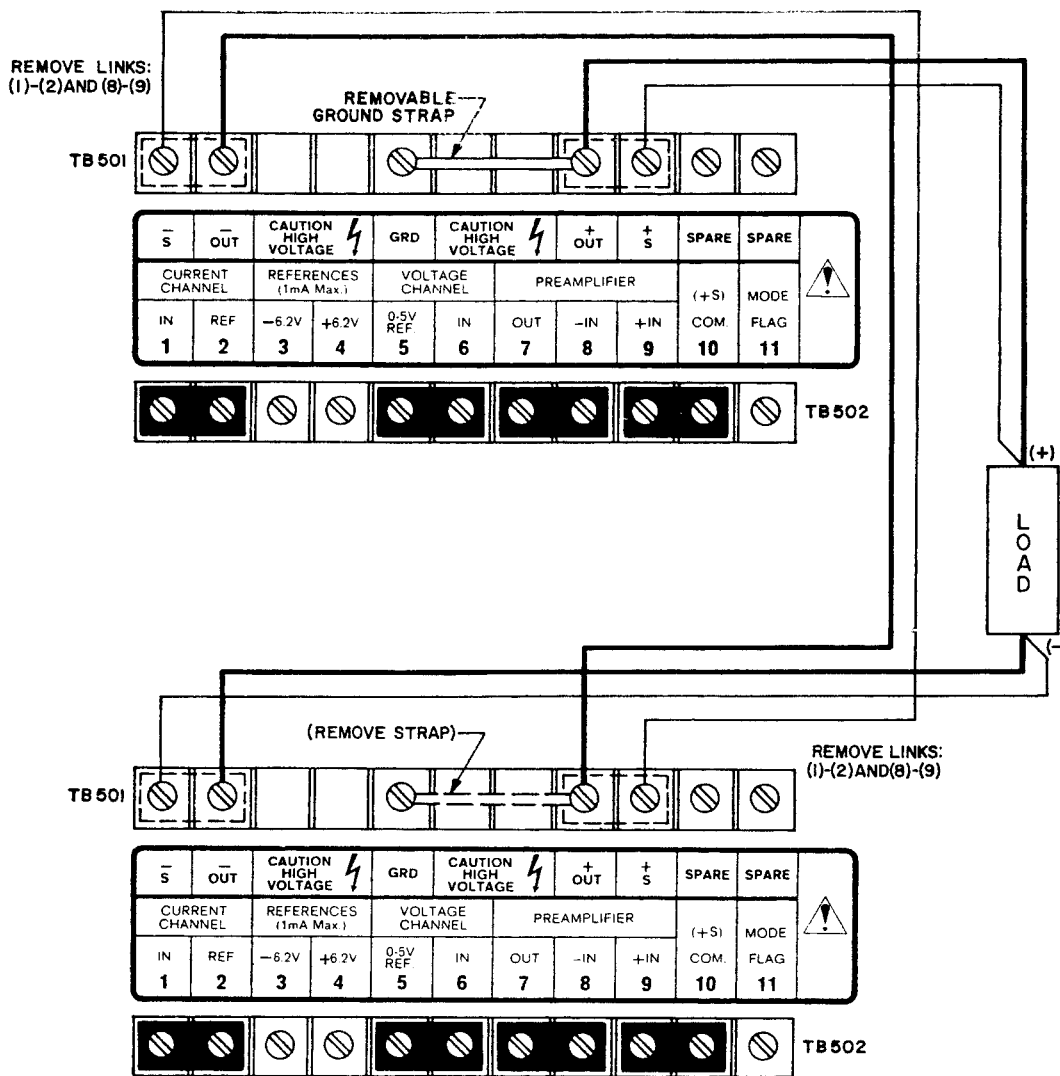

FIG. 3-10 "AUTOMATIC" SERIES CONNECTION OF TWO MODEL APH 500M POWER SUPPLIES.
3-42 PROCEDURE FOR "AUTOMATIC" SERIES CONNECTION (Refer to FIG. 3-10)
- 3) Make all load connections as shown in the diagram (refer to FIG. 3-10). The error sensing connections are *not* needed if *only* current mode operation is planned.